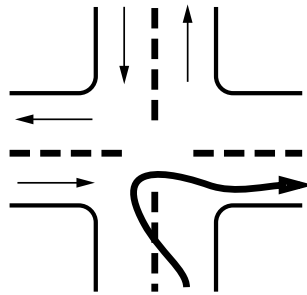

Figure 2-12
- ✓ Don't turn wide to the left as you start the turn, as shown in Figure 2-12. A following driver may think you are turning left and try to pass you on the right. You may crash into the other vehicle as you complete your turn.